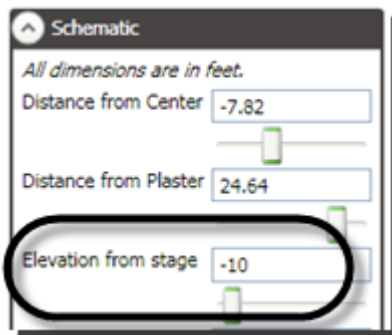
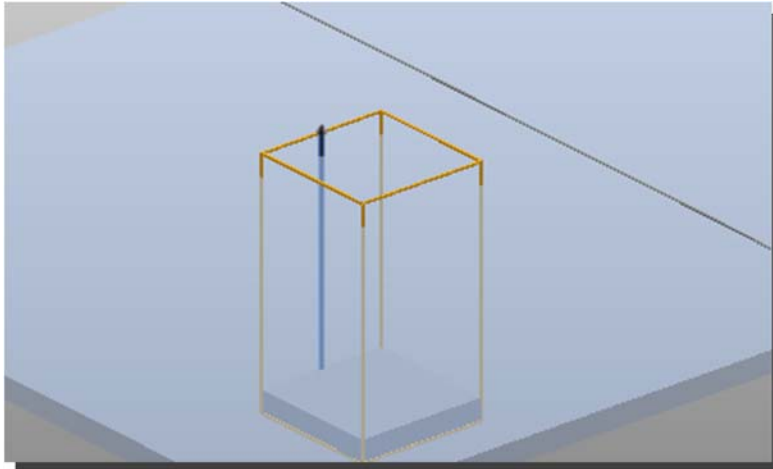

Figure 278
Figure 279
5. Using the **Elevation from stage** field, position the Lift so that it travels into the trap room (Figure 278 and Figure 279).